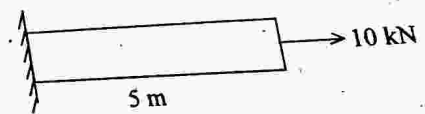

Fig. 12(B)
(B) Find out the end displacement of the bar shown in Fig. 12(B) using Rayleigh Ritz method. Assume polynomial function for displacement as  $u(x) = a_1 + a_2x$ . Take  $A = 100 \text{ mm}^2$ ,  $E = 2 \times 10^5 \text{ N/mm}^2$ .